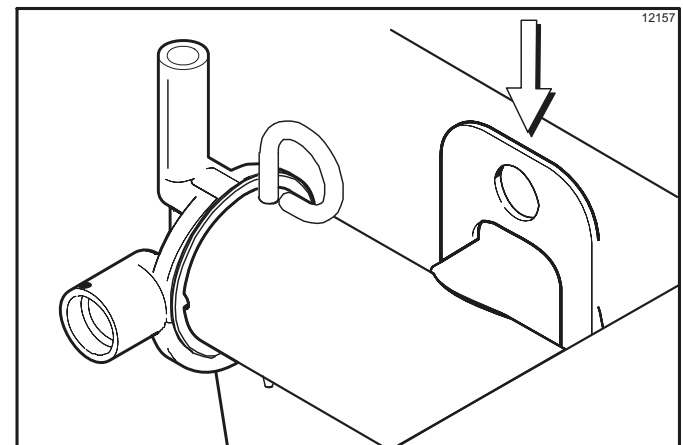

Figure 6-34
4. Install the pump assembly at the rear of the mix hopper. To position the pump on the drive hub, align the drive hole in the piston with the drive crank of the driveshaft. Secure the pump in place by slipping the pump clip over the collar of the pump, making sure the clip fits into the grooves in the collar. (See Figure 6-34.)